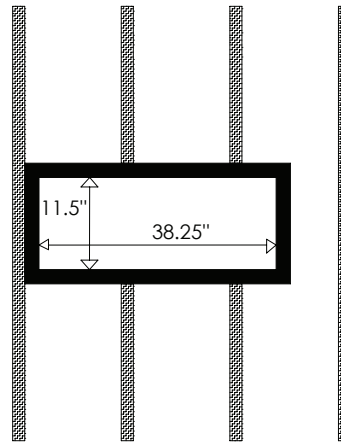

Figure 17
3. Use 2x6s to create a frame with 38.25" x 11.5" (971.6mm x 292.1mm) internal dimensions (Figure 17). Secure to existing studs with nails or woodscrews.